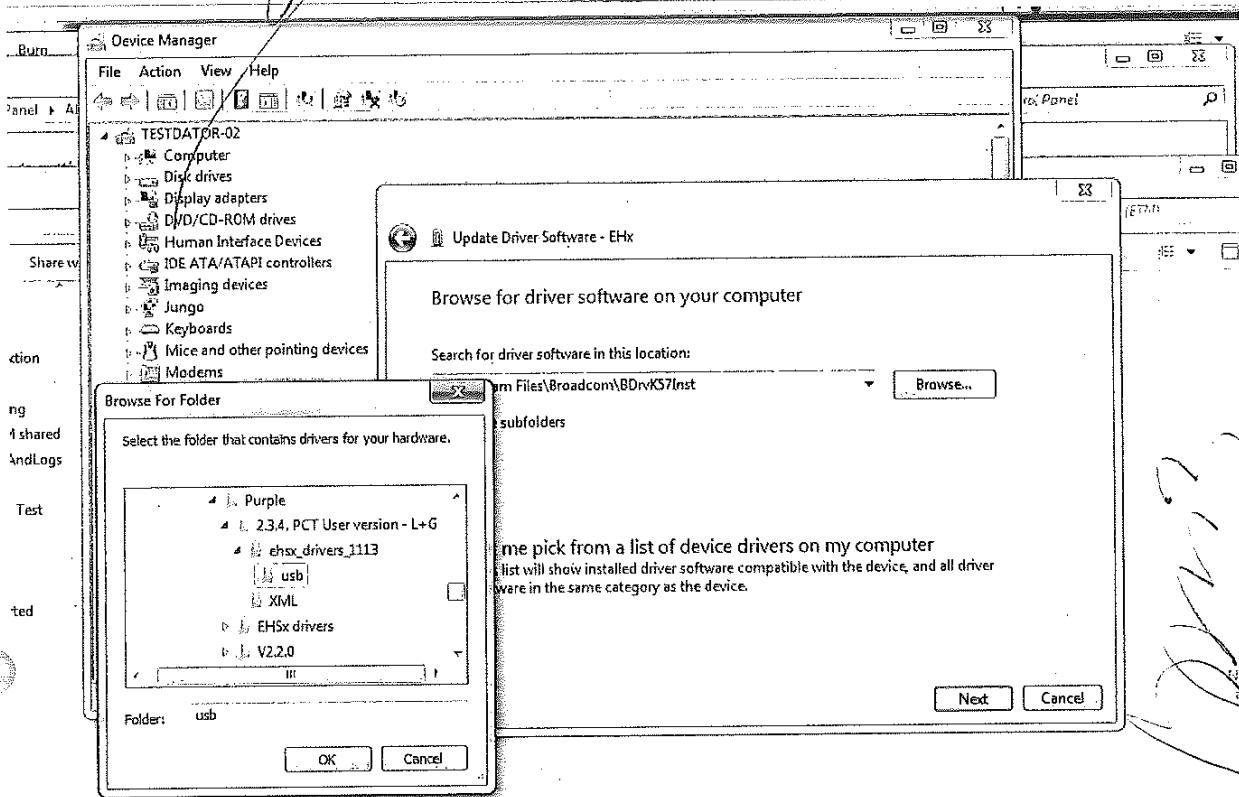

Figure 9. USB driver installation, find the driver locally.
- Browse to the saved folder for the ETM-Purple Configuration Tool and select the folder ehsx_drivers_1113/usb and click OK, see figure 9